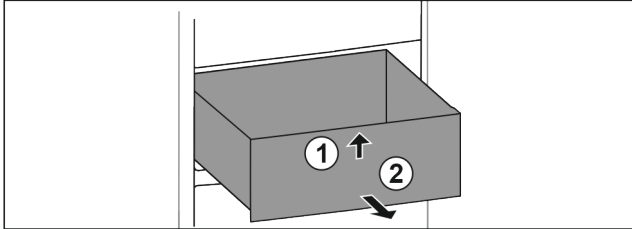

Fig. 191
- ▶ Lift up drawer at the front. Fig. 191 (1)
- ▶ Remove drawer to the front. Fig. 191 (2)